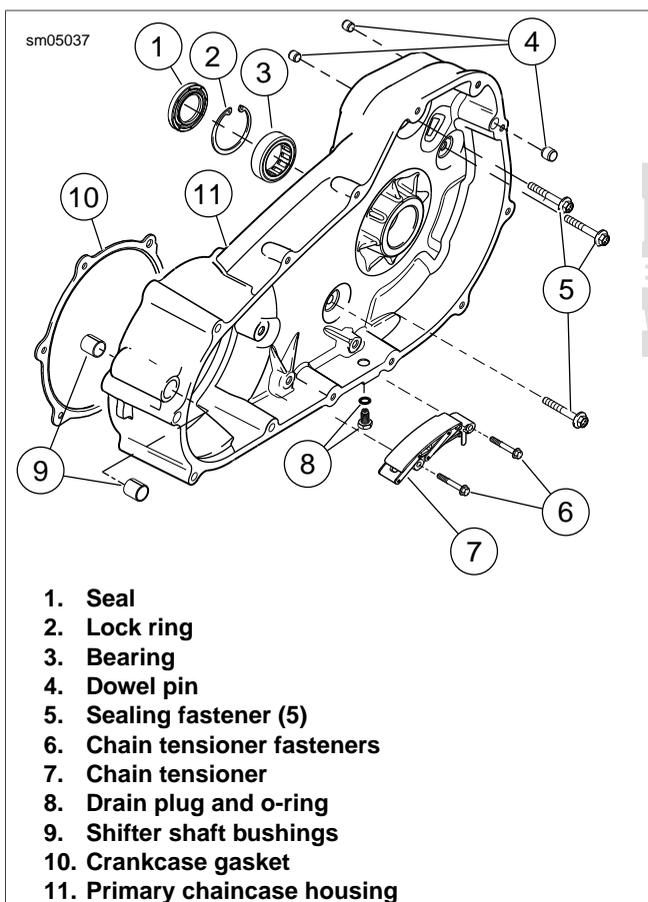

Figure 6-19. Primary Chaincase Housing
5. See Figure 6-19. Remove five sealing fasteners (5) securing primary chaincase housing (11) to crankcase and transmission. Discard the crankcase gasket (10) and sealing fasteners.